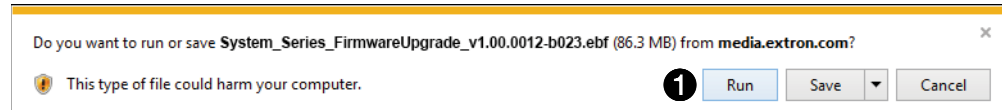

Figure 121. Download Warning and Confirmation
7. If your browser asks you to confirm that you want to continue, click **Run** or make a similar confirmation that you want to run the installation (see figure 121, **1**).
- Figure 121 may look different or may not appear at all, depending on your web browser choice and its security settings.